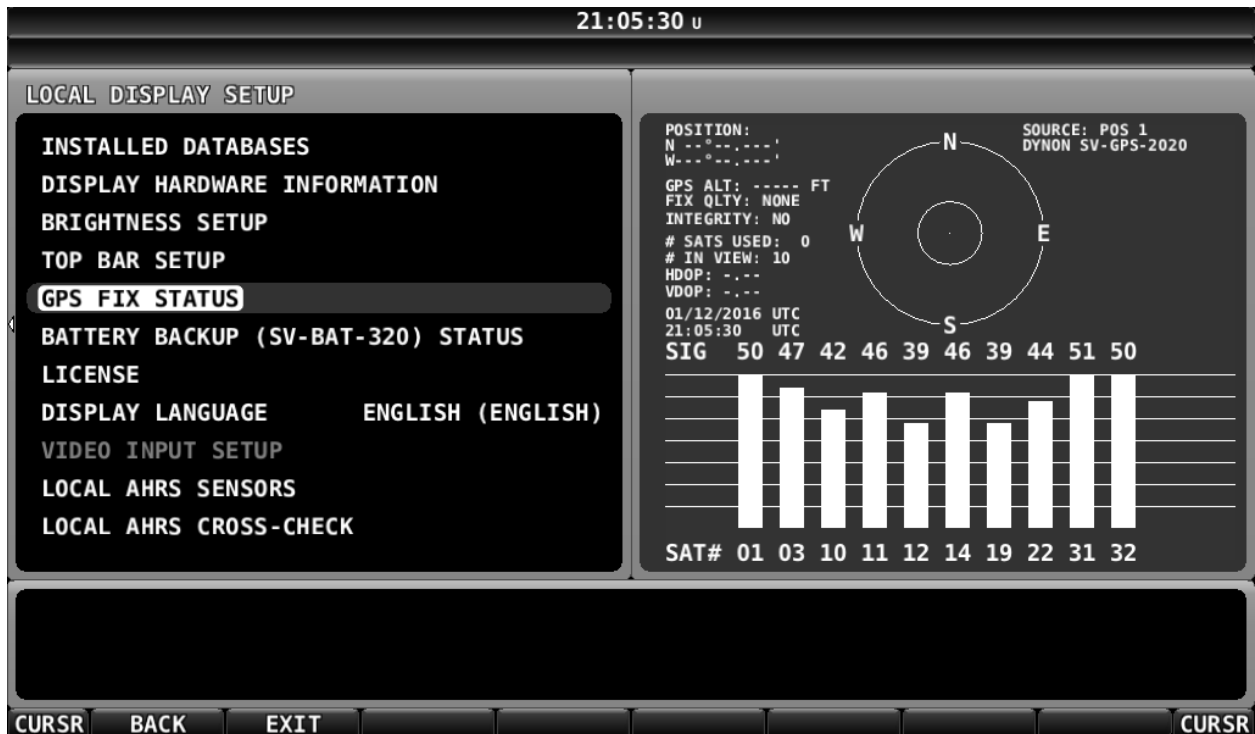

Figure 128 – No GPS Fix
**If, after waiting several minutes, any of the Minimum Values shown in Table 75 – Verification of SV-GPS-250/2020 Adequate Satellite Reception *are not shown* (such as illustrated in Figure 128 above) it may be necessary to install the SV-GPS-250/2020 in a different location on the aircraft.**